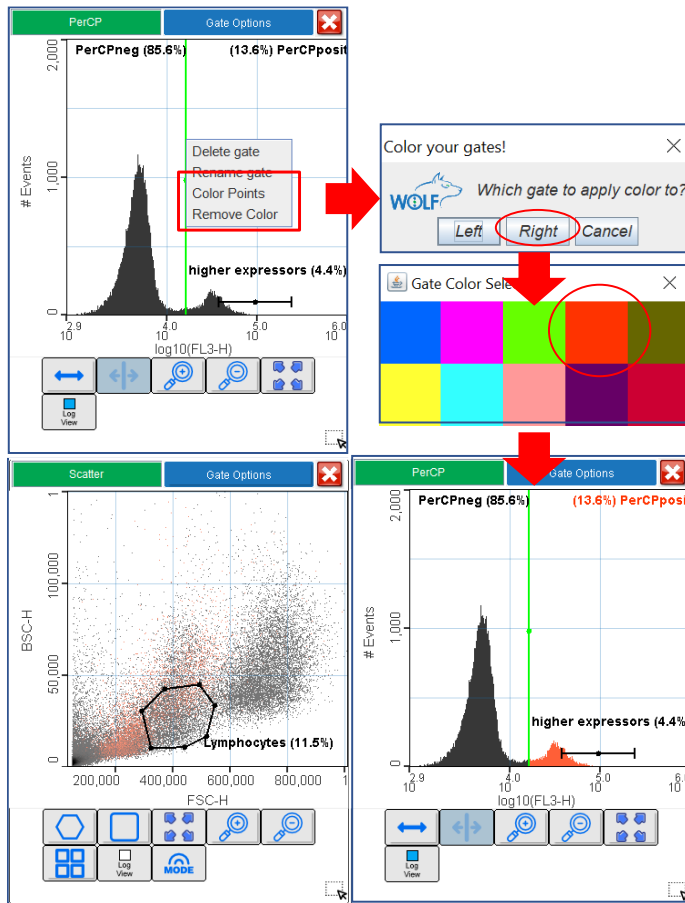

Figure 43. Applying color to gates
2. Click on the desired color to apply. Gate name and % will be colored too. Set the plot in Regular Mode (black dots) for better display (Fig. 43).